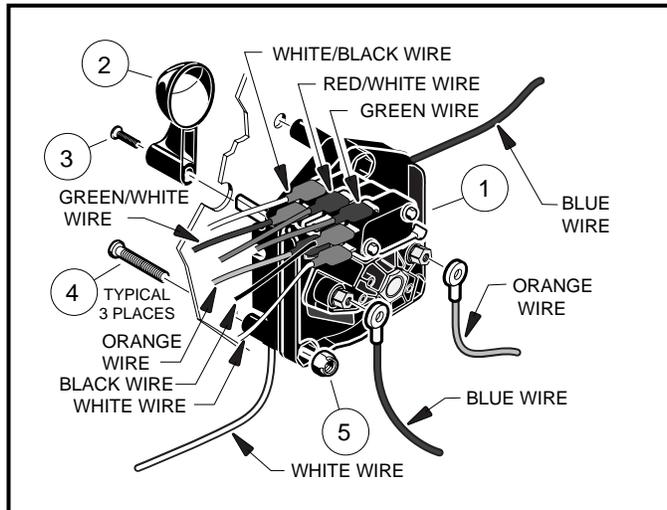

Figure 12-2 F&R Switch Wiring
2. Remove the Forward/Reverse handle mounting screw (3) and handle (2) (**Figure 12-2, Page 12-4**).
4. Remove the screws (4) and nuts (5) that mount the F&R switch to the body (**Figure 12-2, Page 12-4**).
5. Place handle (2) on the F&R switch. Tighten screw (3) to 14 in.lb (1.6 N-m) (**Figure 12-2, Page 12-4**)